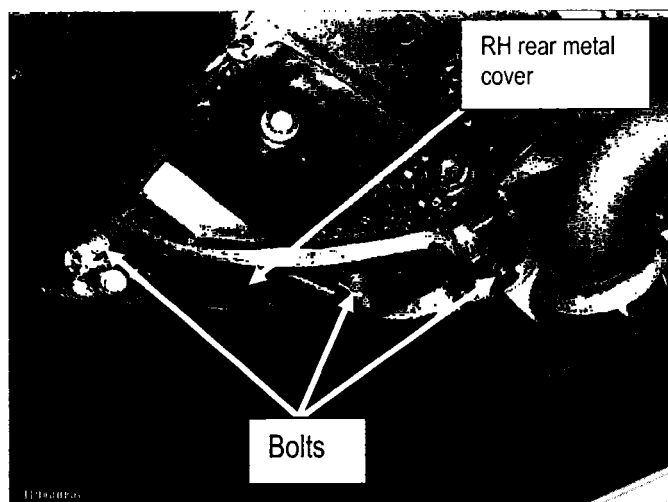

Figure 5
8. Below the plastic cover you just removed: remove three bolts and remove the passenger (RH) side rear metal cover (see Figure 5).